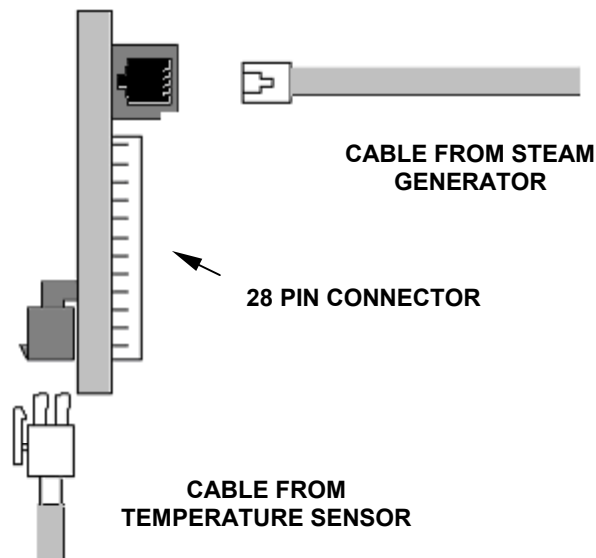

Figure 11
11. Plug the Temperature Sensor cable into the steam board. Plug the cable from the generator into the steam board (see Figure 11).